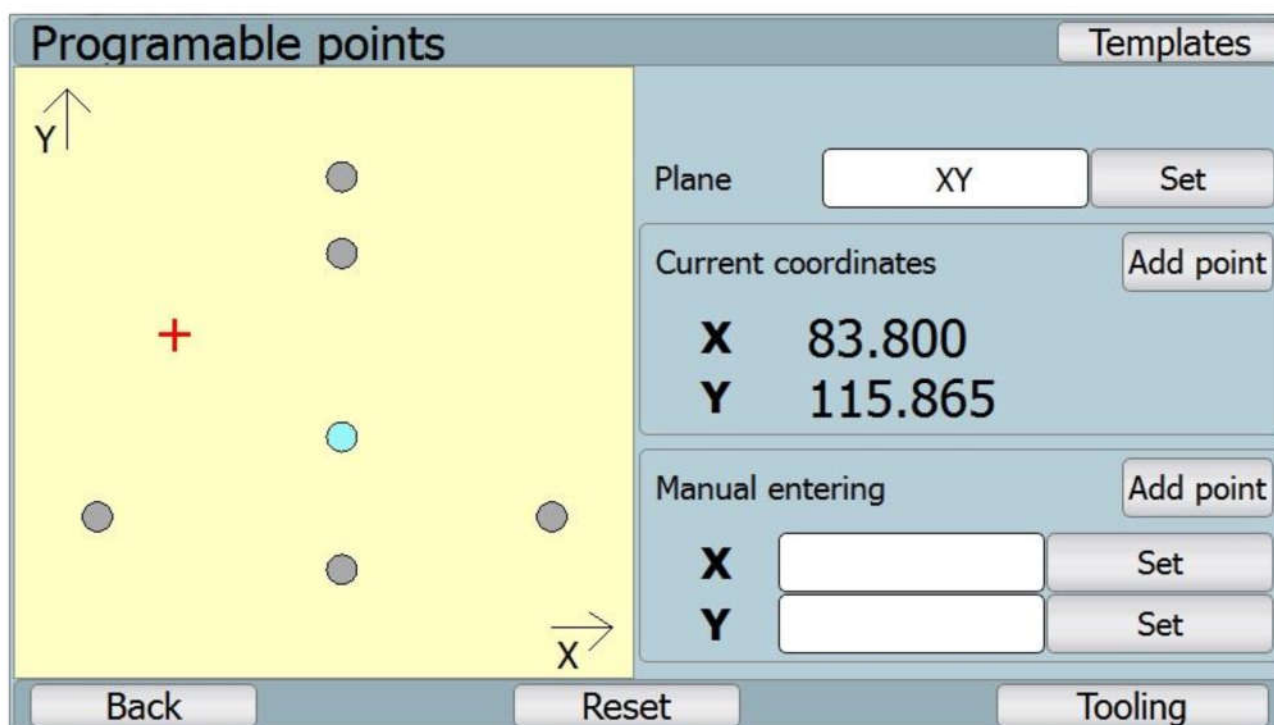

Fig. 23: Programmable points
⑩ It is used for entering individual whole to be drilled.
⑩ At first, select the plane for drilling
⑩ There are two ways of entering the holes for drilling:
1. It displays the actual tool coordinates and using button „**Pridat bod**“ (add point) to insert the hole in the scene for the actual coordinates (see fig. 23: Programmable points).
⑩ Every entered hole can be edited independently – shift in defined plane axes. This option is achieved by marking the hole in the scene (finger or stylus). Marked hole is green.
⑩ The hole can be deleted from the scene using button „**Odstranit**“ (delete).
⑩ After returning to the initial setting, it is possible to use button „**Zpet**“ (back) on the right or mark a location where no hole is drawn in the scene.
⑩ As soon as all parts are entered, press button „**Obrabeni**“ (machining) to get back to the machining mode where individual holes can be drilled.
⑩ Button „**Reset**“ returns everything into the initial setting